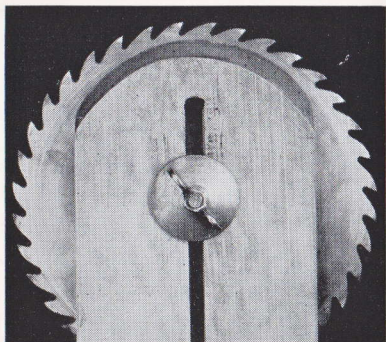

Fig. 18—Wooden vise for circular saw
**3. FILING**—The larger circular saws may be filed when mounted on their arbors in the machine, provided they do not chatter. If they do, they should be placed in a clamp, then filed (See Fig. 18). Small circular saws are usually filed in a similar circular clamp.